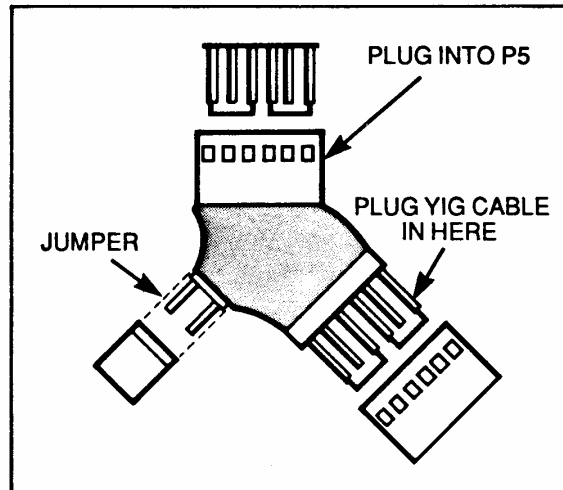

Figure 6-3. T856 Extender Connector
1. With the RF Analyzer power OFF, insert the T856 extender connector between P5 and the YIG cable that plugs into P5 as shown in Figure 6-3.
3. With the RF Analyzer power OFF, insert the T856 extender connector between P5 and the YIG cable that plugs into P5 as shown in Figure 6-3.